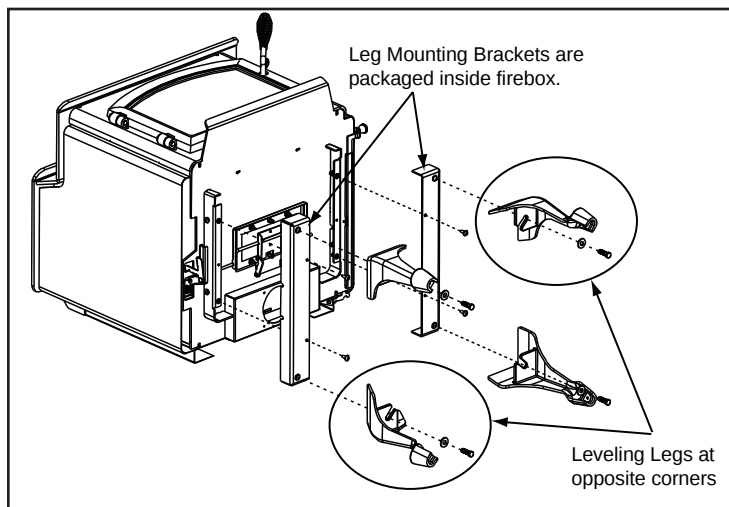

Figure 23.1
- Loosely assemble bolts into the corner of the mounting brackets for leg attachment. **Figure 23.1**.
- Slide legs onto mounting brackets making sure the legs are up against the bracket and secure with the bolts supplied. There are leveling bolts in 2 legs. These leveling bolts should be in opposite corners. **Figure 23.1**.